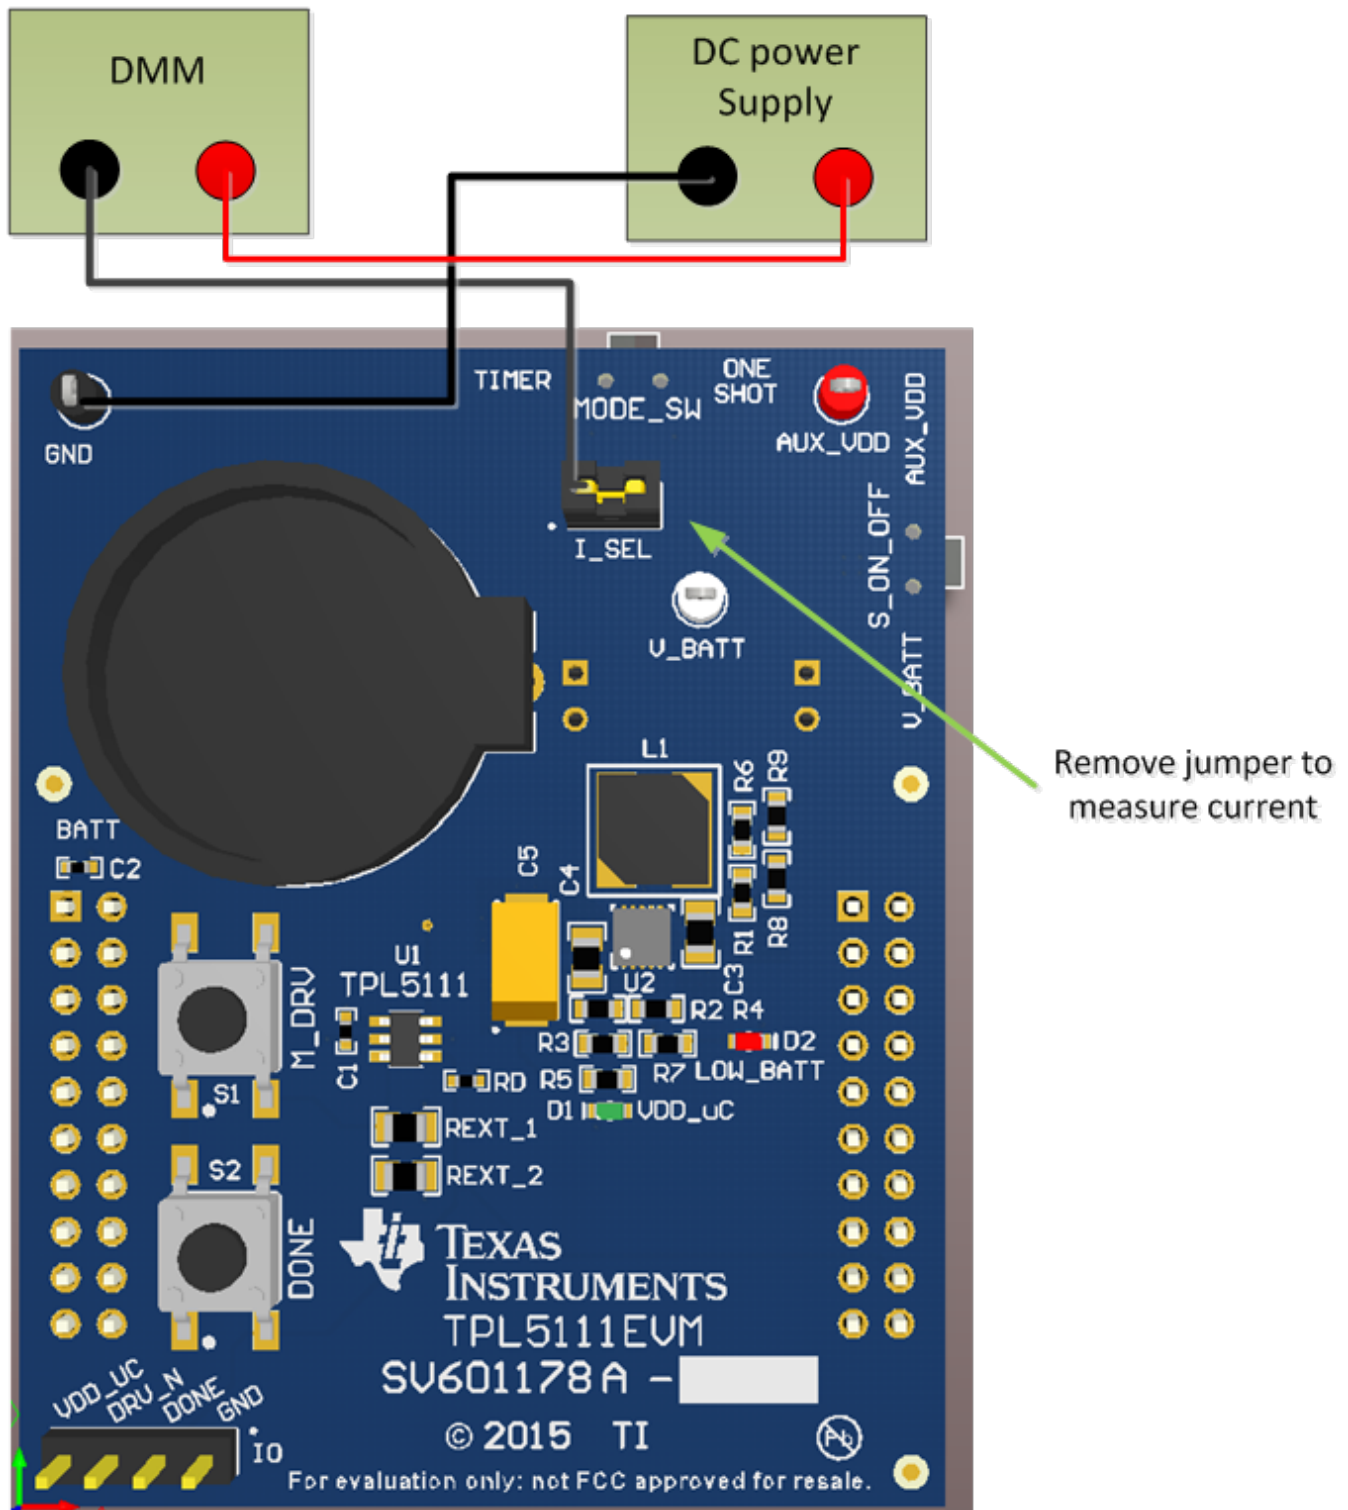

Figure 6. EVM, DMM and Power Supply Connection for TPL5111 Supply Current Measurements
4. Connect the EVM, a power supply and a digital multi-meter (DMM) as shown in Figure 6. The output of the power supply should be OFF. The DMM should support 6 digits of resolution.